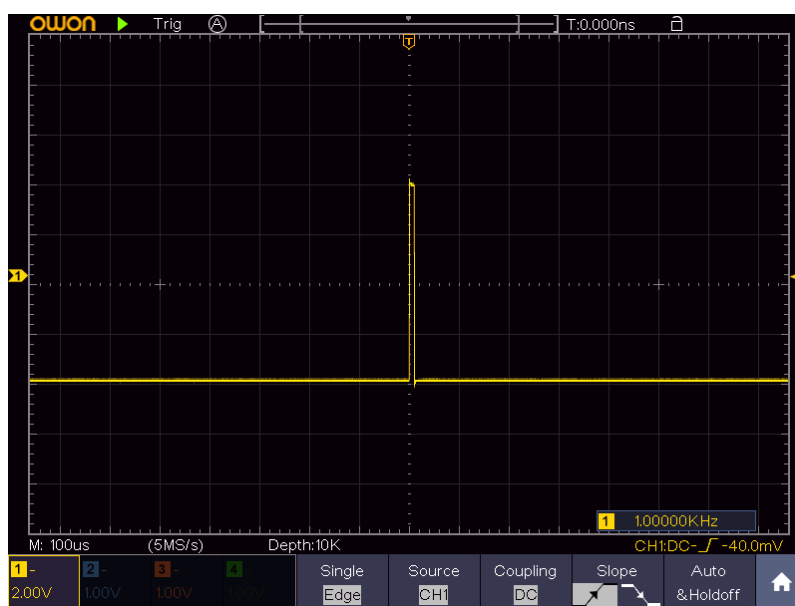

Figure 7-3 Capturing a Single Signal
- (4) Select **Acqu Mode** in the bottom menu. Select **Peak Detect** in the right menu.
- (5) Click  to call up the menu panel. Click the **Trig Menu** softkey on panel to display the Trigger menu.
- (6) Select the first menu item in the bottom menu. Select **Single** in the right menu.
- (7) In the left menu, select **Edge** as the mode.
- (8) Select **Source** in the bottom menu. Select **CH1** in the right menu.
- (9) Select **Coupling** in the bottom menu. Select **DC** in the right menu.
- (10) In the bottom menu, select **Slope** as  (rising).
- (11) Turn the upper knob and adjust the trigger level to the roughly 50% of the signal to be measured.
- (12) Check the Trigger State Indicator on the top of the screen, if it is not Ready, push down the **Run/Stop** button and start acquiring, wait for trigger to happen. If a signal reaches to the set trigger level, one sampling will be made and then displayed in the screen. By using this approach, a random pulse can be captured easily. For instance, if we want to find a burst burr of high amplitude, set the trigger level to a slightly higher value of the average signal level, push the **Run/Stop** button and wait a trigger. Once there is a burr occurring, the instrument will trigger automatically and record the waveform during the period around the trigger time. When the **HOR** button is lit, by turning the upper knob on the front panel, you can change the horizontal triggering position to obtain the negative delay, making an easy observation of the waveform before the burr occurs (see *Figure 7-3*).